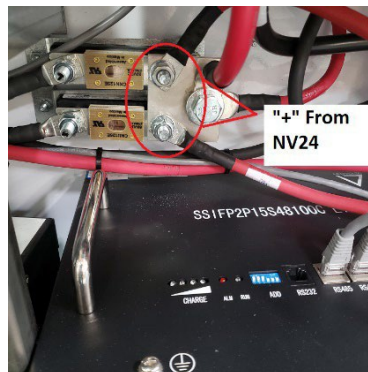

Figure 15
Connect the two (2) red (+) wires to the NV14 fuse bar as shown in figure 15. Tighten to 90 in-lbs.